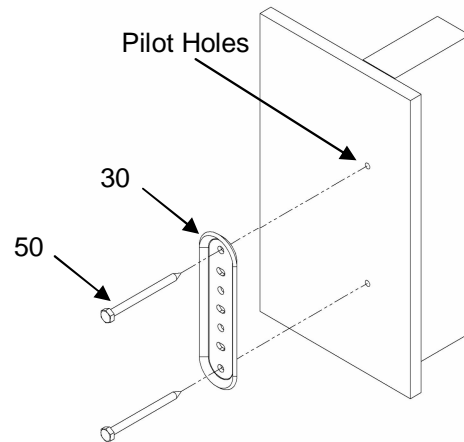

Figure 4. Secure Wall Bracket to Wall
2. Using wall bracket (30) as a template, mark two pilot holes. (See Figure 4).
1. Align top of mount (10) with top of wall bracket (30). Push bottom of mount against bottom of wall bracket until mount fits snugly in place. (see Figure 4)